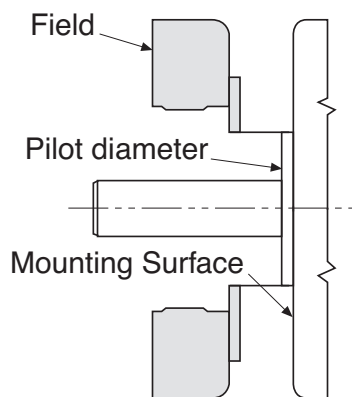

Figure 1
- b. An appropriate pilot diameter must be provided on the mounting surface as well. (Figure 1)